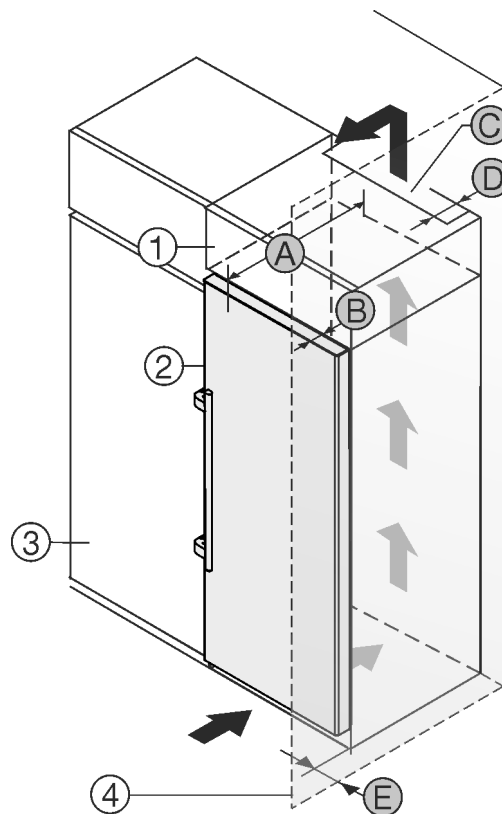

Fig. 1
- (1) Top cabinet
- (2) Appliance
- (3) Kitchen cabinet
- (4) Wall
- (A) Appliance depth
- (B) Door depth
- (C) Ventilation cross section
- (D) Distance to the back of the appliance
- (E) Distance to the side of the appliance
You can place the appliance directly beside the kitchen cabinet Fig. 1 (3).
There must be a ventilation shaft at the depth Fig. 1 (D) of the back of the top cupboard over the entire width of the top cupboard.
The ventilation cross-section Fig. 1 (C) must be maintained under the ceiling.
If the appliance is set up with the hinges next to a wall Fig. 1 (4), the distance between the appliance and the wall must be at least 57 mm. This is how far the handle protrudes when the door is open.
In order to be able to fully open the door, the appliance must protrude by the depth of the door *Fig. 1 (B)* from the front of the kitchen cabinet. The appliance may protrude further depending on the depth of the kitchen cabinets *Fig. 1 (3)* and whether wall spacers are used.